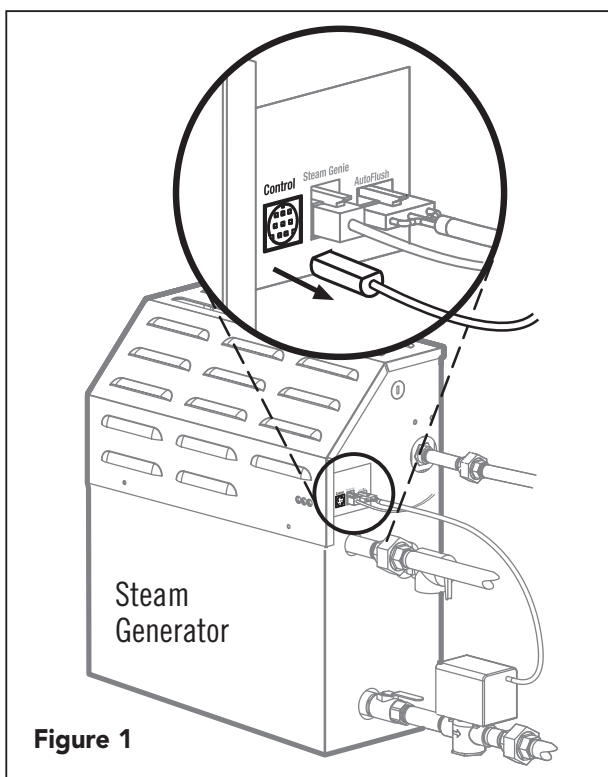

Figure 1
2. Unplug all connections to the right side of MS Generator, see figure 1.